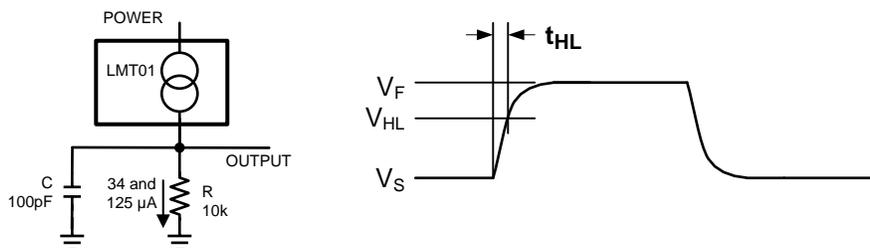

Figure 25. Simple RC Model for Rise and Fall Times
Stray capacitance can be introduced when connecting the LMT01 through a long wire. This stray capacitance will influence the signal rise and fall times. The wire inductance has negligible effect on the AC signal integrity. A simple RC time constant model as shown in Figure 25 can be used to determine the rise and fall times.
- RC as shown in Figure 25
- (2)